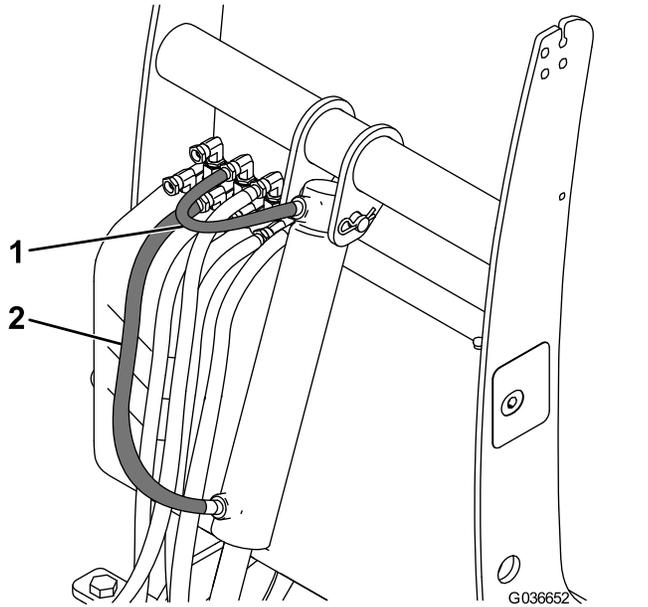

Figure 9
- Install the 45 cm (18 inch) hose to the L port on the hydraulic shelf and the lower fitting on the lift cylinder (Figure 9). Turn the fitting until it is finger tight, then turn it another 1/4 to 1/2 turn.
- Install the 39 cm (15-1/2 inch) hose to the Aux port on the hydraulic shelf (Figure 9). Turn the fitting until it is finger tight, then turn it another 1/4 to 1/2 turn.